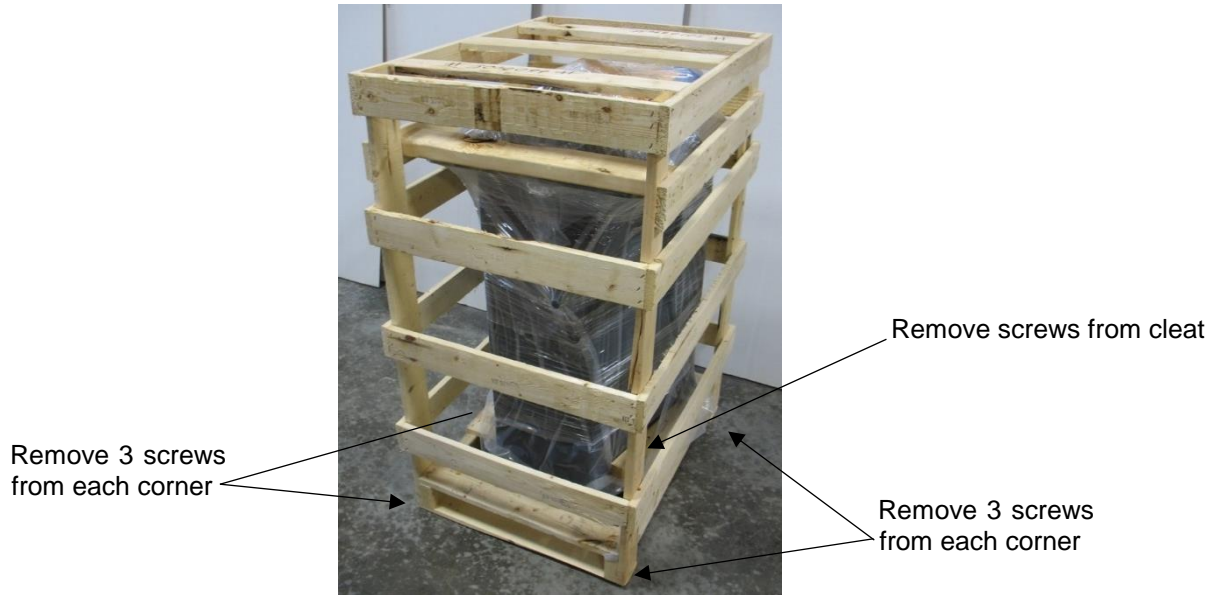

Figure 7: Unpacking
1. Remove screws from bottom of each upright corner piece (Fig. 7), typically three screws per corner.
3. Remove screws from cleat (Fig. 7 & 8)